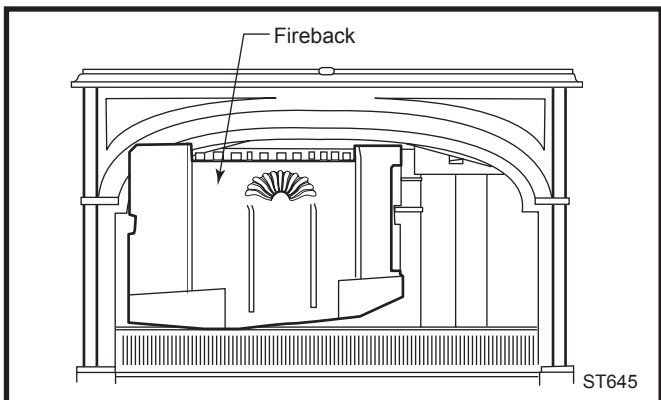

Fig. 36 Remove the lower fireback through the front door opening.
4. Swing the fireback forward and up to remove it from the stove. (Fig. 36)